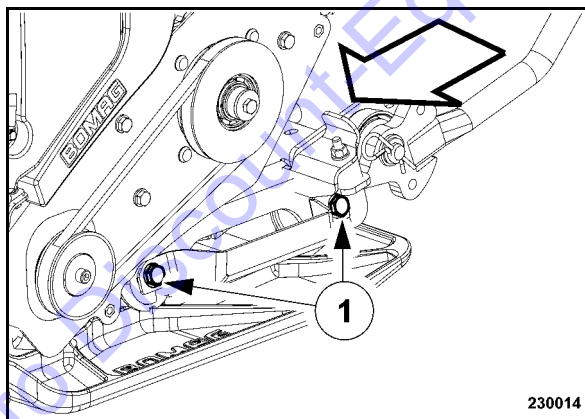

Fig. 54
- Slightly loosen two fastening screws (1) (Fig. 54) on both sides of the engine carrier.